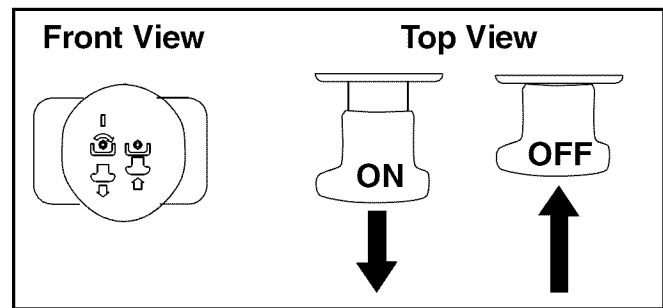

Figure 7
- Pull the PTO/Blade Engage knob outward into the engaged (ON) position. See Figure 7.
**IMPORTANT:** With the ignition key in the **NORMAL MOWING** position, the PTO clutch will automatically shut off if the PTO (Blade Engage) knob is moved into the engaged (ON) position with the shift lever in Reverse. Refer to **Safety Interlock Switches** on page 14.